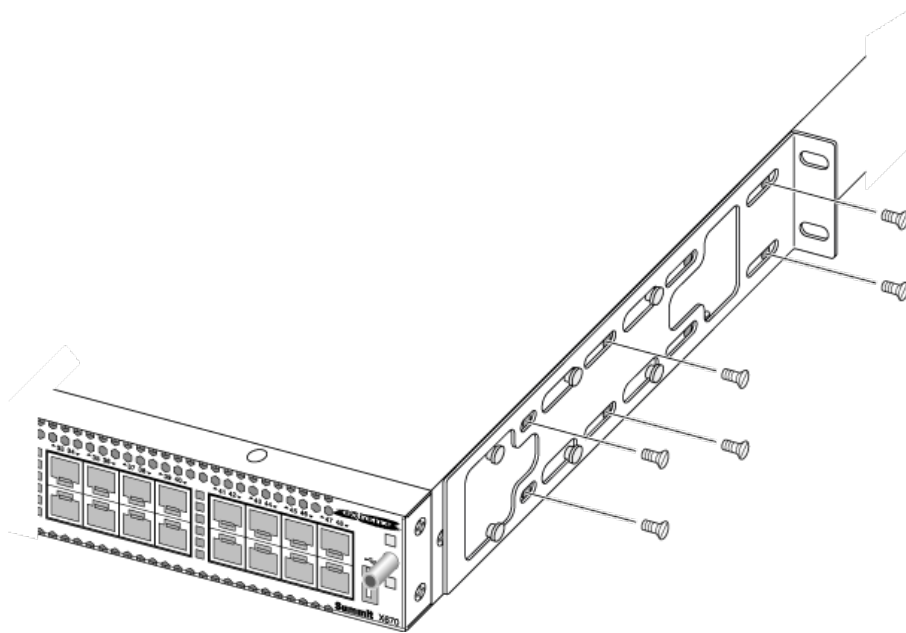

Figure 134: Mid-Mount: Attaching a Long Mounting Bracket
- Figure 134 shows a mid-mount configuration using a long mounting bracket.